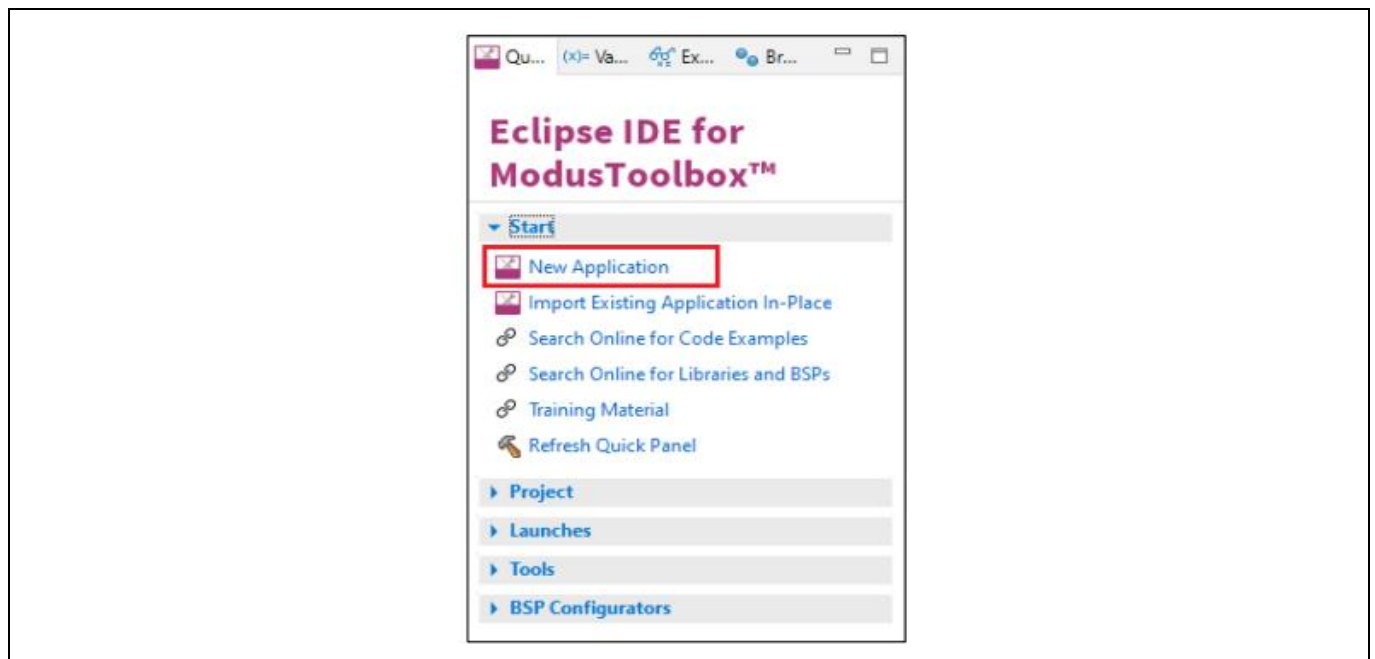

Figure 7 New application creation
- Click the New Application link in the Eclipse IDE Quick Panel as shown in the Figure 7.